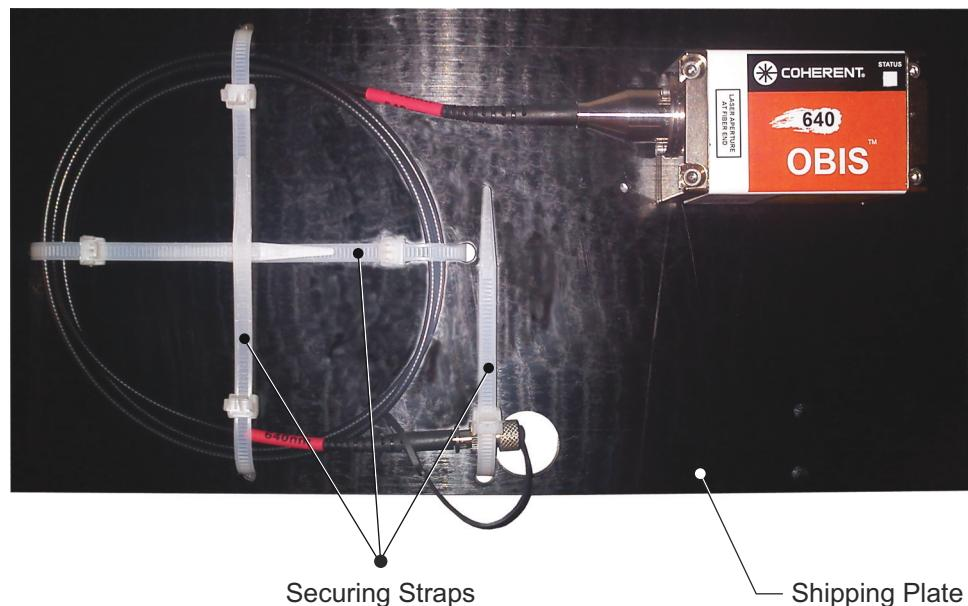

Figure VIII-3. OBIS FP Laser Secured to the Shipping Plate
1. Secure the OBIS LX Laser to the mounting plate using the four M3 x 35 mm screws and washers. Carefully coil the fiber into a circle and fasten with the five re-sealing zip ties (refer to the Figure VIII-3).